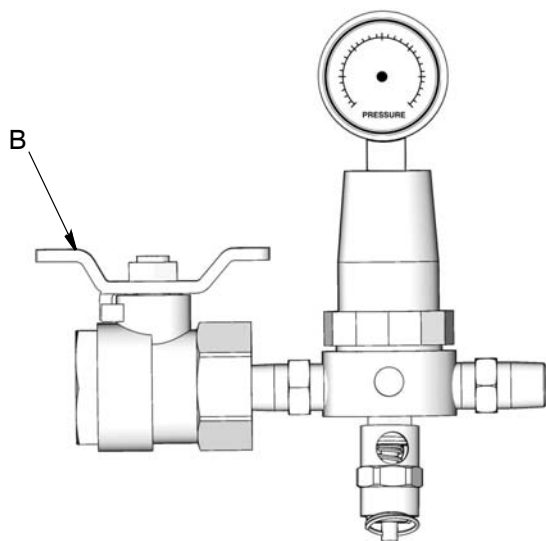

FIG. 4
Locate one bleed-type master air valve (B) close to the pump and use it to relieve trapped air (FIG. 4). For drum mounted installations only, also locate a second master air valve upstream from all air line accessories and use it to isolate them during cleaning and repair.
1. Using the hardware provided install the air controls to the air inlet of the pump as shown in FIG. 4. Use a minimum 1/4 in. (6.3 mm) ID air hose.
2. Install an air line quick disconnect coupler onto the end of the air supply line (C) and screw the matting fitting into the pump air inlet snugly. Do not connect the coupler to the fitting yet.